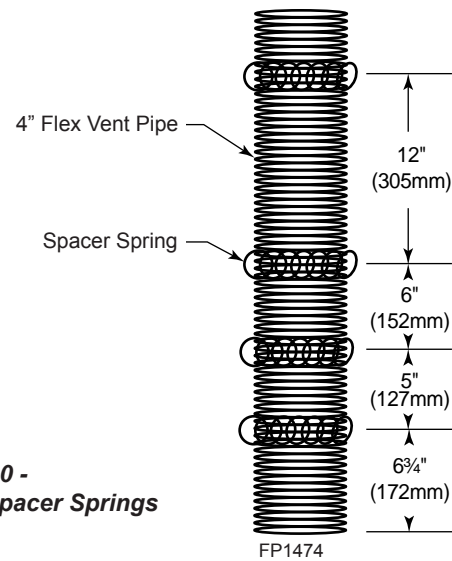

Figure 30 - Install Spacer Springs
Install the four (4) spacer springs on the 4" flex vent pipe. When installing the spacer springs around the 4" pipe, stretch the spring to approximately 15" (381 mm), wrap the spring around the pipe and interlock the ends of the spacer spring approximately 2" (51 mm). Measure 6¾" (172 mm) from the end of the pipe. Place the next spring 5" (127 mm) from the previously installed spring. Place the next spring 6" (152 mm) from the last spring. Finally place the last spring 12" (305 mm) from the last spring installed. *Figure 30*